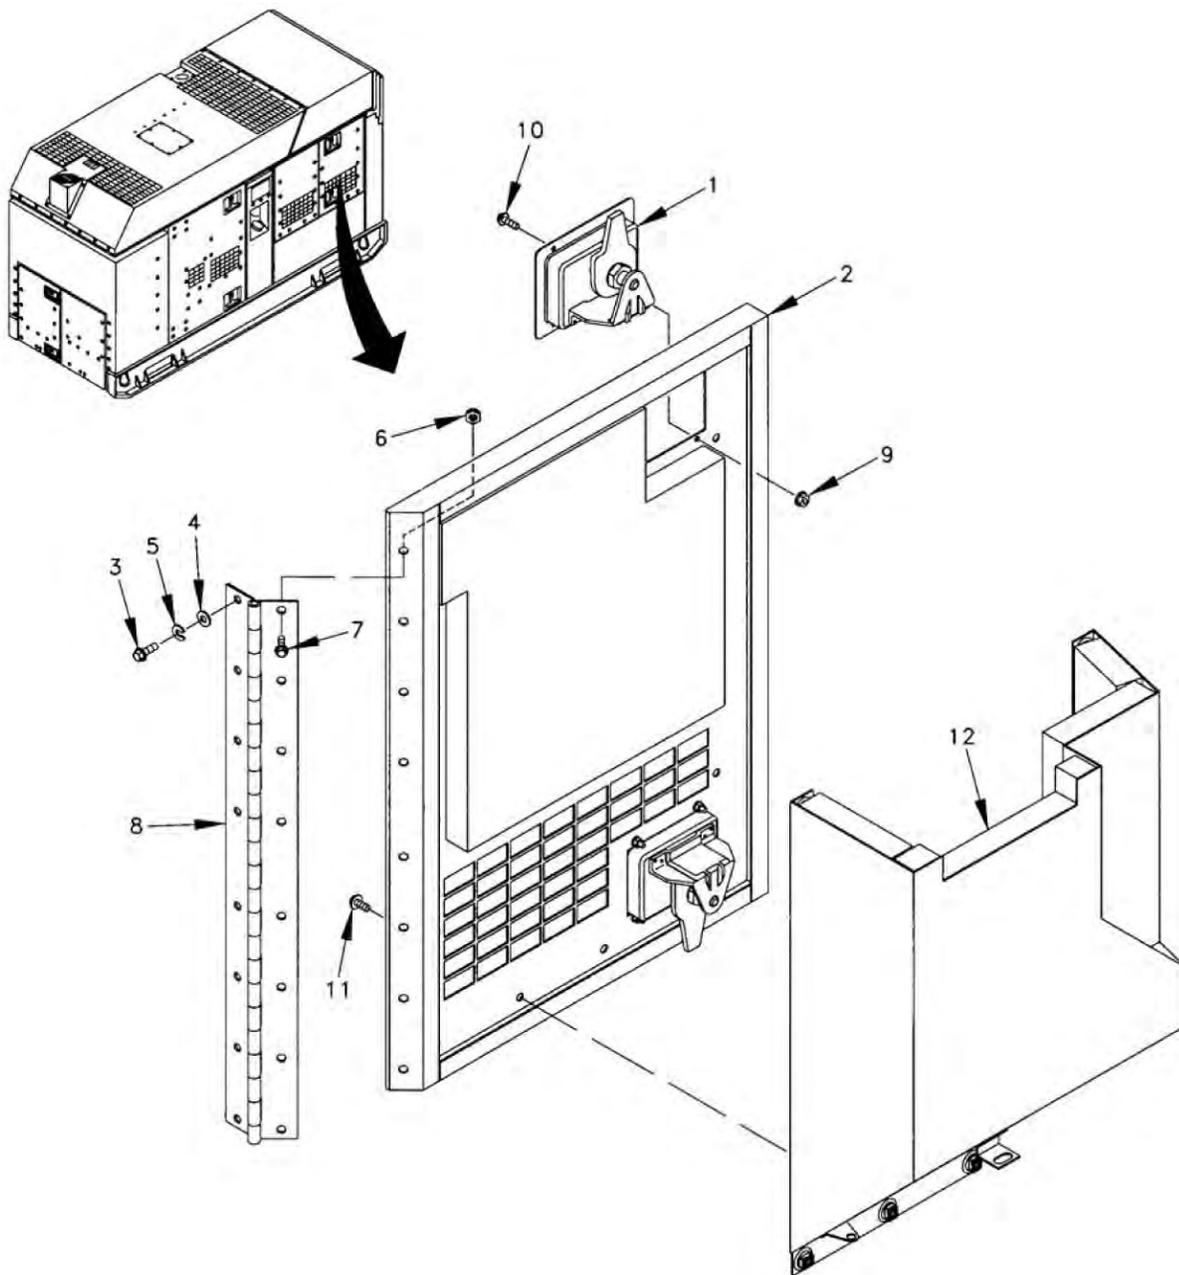

Figure 1. Left Rear Door Assembly (Latch).
1. Turn two latches (Figure 1, Item 1) and open left rear door assembly (latch) (Figure 1, Item 2).
2. Remove eight screws (Figure 1, Item 3), washers (Figure 1, Item 4), lock washers (Figure 1, Item 5), and left rear door assembly (latch) and hinge (Figure 1, Item 2).
1. Remove eight locknuts (Figure 1, Item 6), screws (Figure 1, Item 7), and hinge (Figure 1, Item 8).
2. Remove eight nuts (Figure 1, Item 9), screws (Figure 1, Item 10), and two latches (Figure 1, Item 1).
3. Remove eleven screws (Figure 1, Item 11), and duct (Figure 1, Item 12).
3. Install duct (Figure 1, Item 12) and secure with eleven screws (Figure 1, Item 11).
4. Install two latches (1) and secure with eight screws (Figure 1, Item 10) and nuts (Figure 1, Item 9).
5. Install hinge (Figure 1, Item 8) and secure with eight screws (Figure 1, Item 7) and locknuts (Figure 1, Item 6).
1. Install left rear door assembly (latch) and hinge (Figure 1, Item 2) and secure with eight lock washers (Figure 1, Item 5), washers (Figure 1, Item 4), and screws (Figure 1, Item 3).